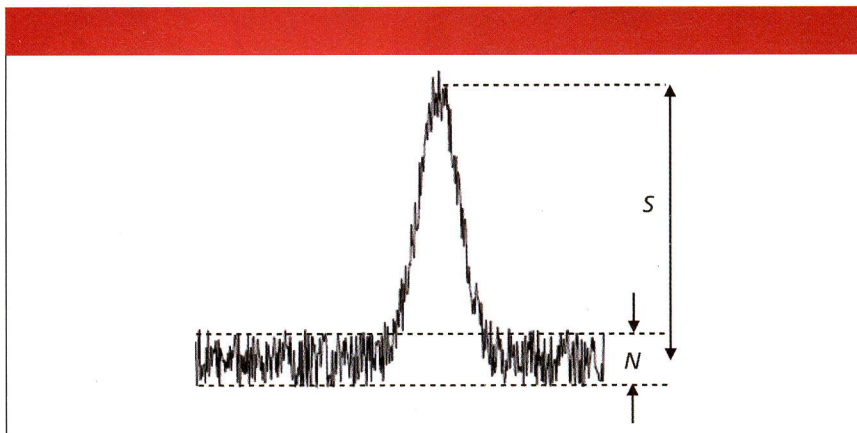

Figure 1: Measurement of the signal and noise from a chromatogram.
The signal-to-noise ratio (S/N) in a liquid chromatography (LC) separation usually is defined as shown in Figure 1. The noise is measured between two lines bracketing the baseline and the signal is measured from the middle of the baseline to the top of the peak. S/N is merely the signal divided by the noise. There are some other ways to determine S/N, but that is not the point of the current discussion. My comments here will apply no matter what technique you use for measurement and calculation of S/N.